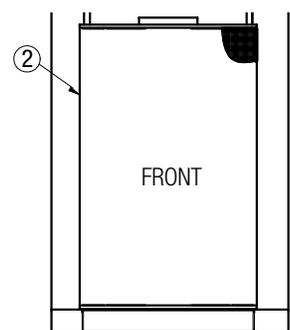

Figure 3
3. Install diffuser (Item 2) over the mounting angles so that the back of the diffuser is flush with the wall (Figure 3,4,& 5). Fasten diffuser to mounted angles with screws (Item 5). Use minimum 2 screws per side of diffuser.